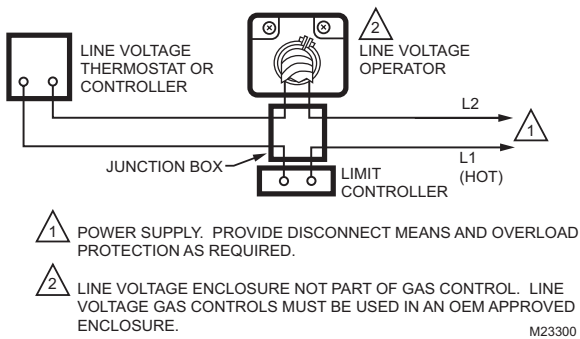

Fig. 10. Typical Wiring Hookup for 120V System.
1. Make sure power supply rating on each control matches available supply. Install line voltage thermostat (or controller) and other controls as required. See Fig. 10 for typical wiring diagram.